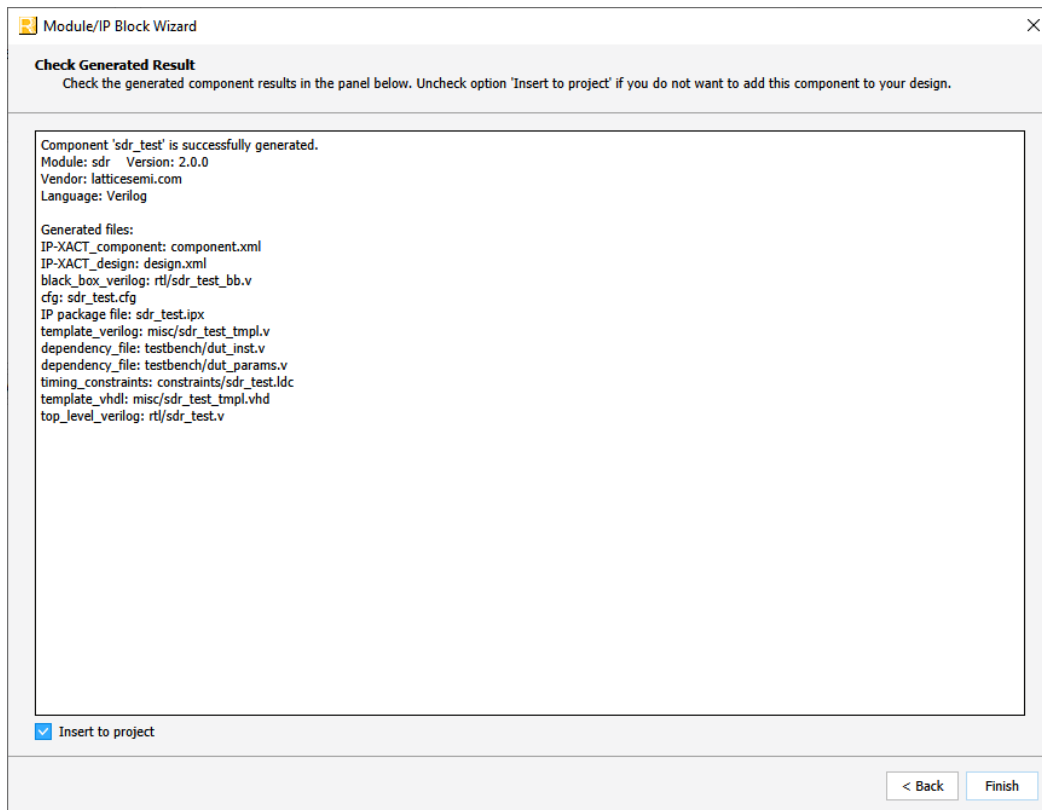

Figure 3.3. Check Generated Result
4. Click **Generate**. The **Check Generated Result** dialog box opens, showing design block messages and results as shown in Figure 3.3.